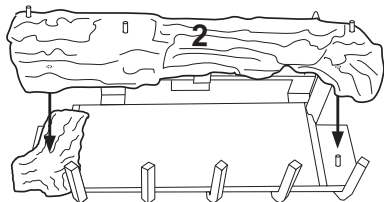

Figure 35 - Installing Log #2, Model CD42M-LS
2. Rest left side of log #2 (front log) on top of log #1 and right side onto pin located on right side of grate extension (see Figure 35).